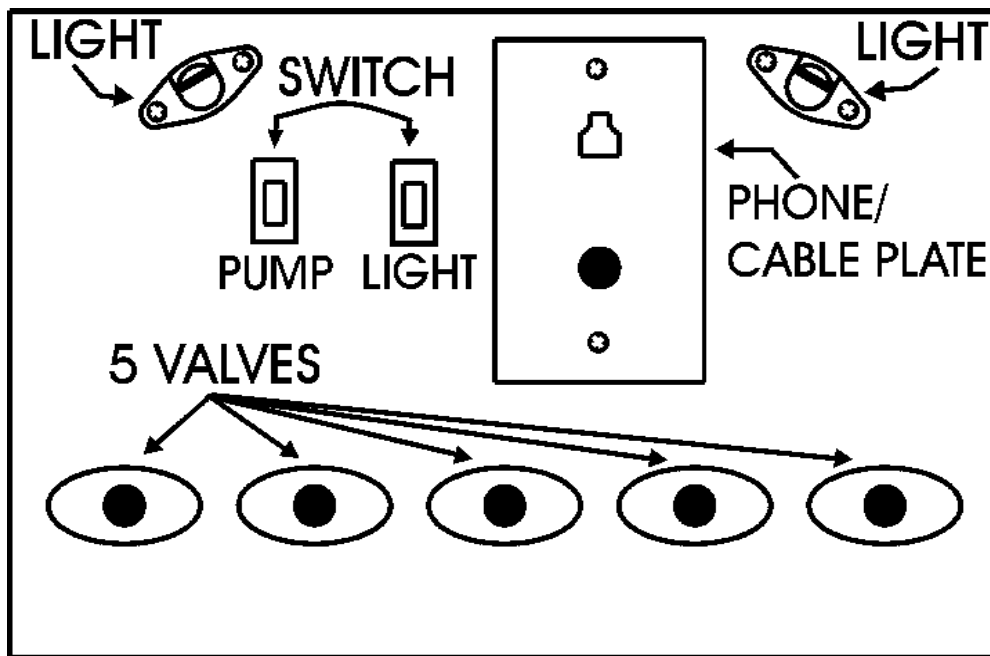

Fig. 4-7
5. Turn the "Water Pump Switch (Fig. 4-7) to the "ON" position and pump all of the chlorine solution into the tank.
9. Turn the “Water Pump Switch” to the “ON” position and allow several seconds for the pump to prime. (Fig. 4-7)
15. Turn the “Water Pump Switch” (Fig. 4-7) to the “ON” position and allow several seconds for the pump to prime.